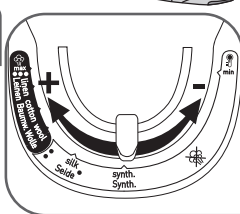

Fig.7
- Adjust the temperature – fig.7. Your iron has the Automatic steam function. Your iron automatically and accurately determines the exact temperature and steam flow that are suitable, in order to guarantee the best results.